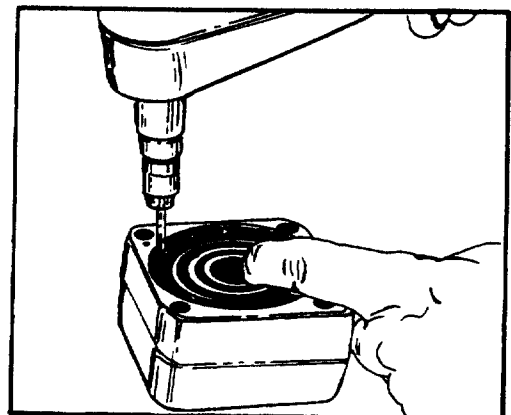
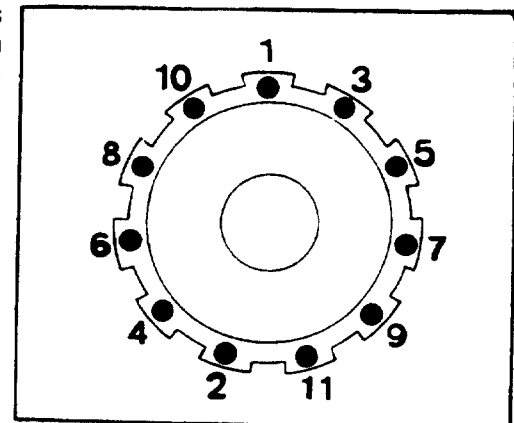

FIGURE 65.
FIGURE 66.
19. Reverse the metering ring (17) and metering package as a unit on the flat surface. Push down on the metering package until the drive plate is on the flat surface. Be sure the cap screws (18) are loose enough to allow the commutator ring (21) and drive plate (26) to align themselves concentrically in the metering ring bore. Gradually tighten the eleven cap screws, following the sequence shown in figure 66, at least twice until a final torque of 11-13 inch pounds (1.24 to 1.47 N m) is reached. See figures 65 and 66. Remove the metering package and shims from the metering ring. Discard the shims.